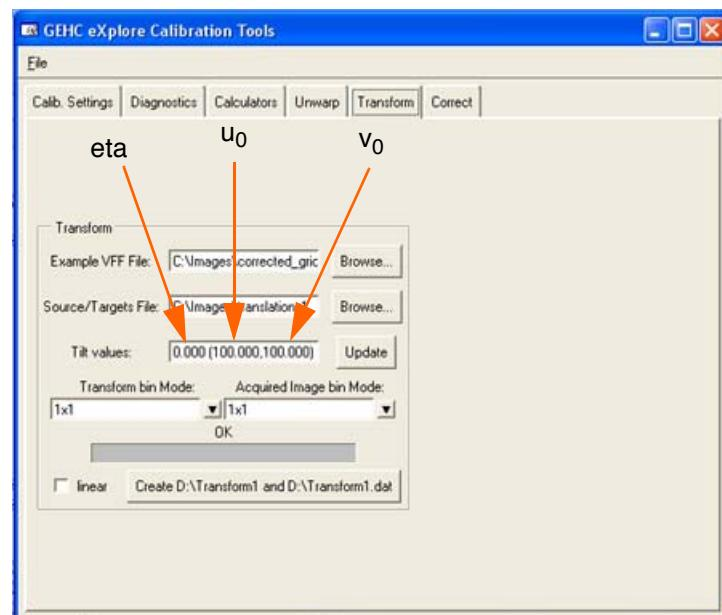

Figure 7-82
1. Access **Calibration Tools** and click the *Transform* tab (Figure 7-82). If a pop-up warning box appears, click on **OK** and continue.